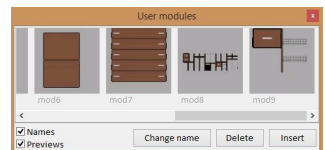

Fig. 132 - Adding a new user module
- **‘Save module’** - available when you select the entire module (i.e. cells with added elements such as shelves, accessories, etc.) (note: it is sometimes necessary to click for a few times to select the parent units). Opens the **‘User modules’** window and saves the selected module on the disk. The created module can be directly inserted into the design (Fig. 132). If you do not intend to use the saved module straight away, close the **‘User modules’** window by clicking on the red cross . The stored user modules can be used at any time by going to the **‘Modules’** tab in the panel on the left side of the screen, and selecting the option **‘User’** and then selecting to the appropriate module from the list and clicking **‘Insert’**.